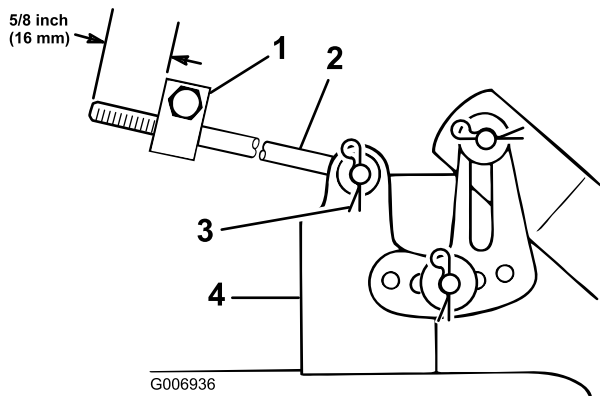

Figure 49
- Measure the length of the rod extending out of the front of the adjusting block on the sides of the chassis (Figure 49). If the rod length is not 5/8 inch (16 mm), remove the hairpin cotter and washer from the end of the rod (Figure 49) and turn the rod until it extends out 5/8 inch (16 mm).